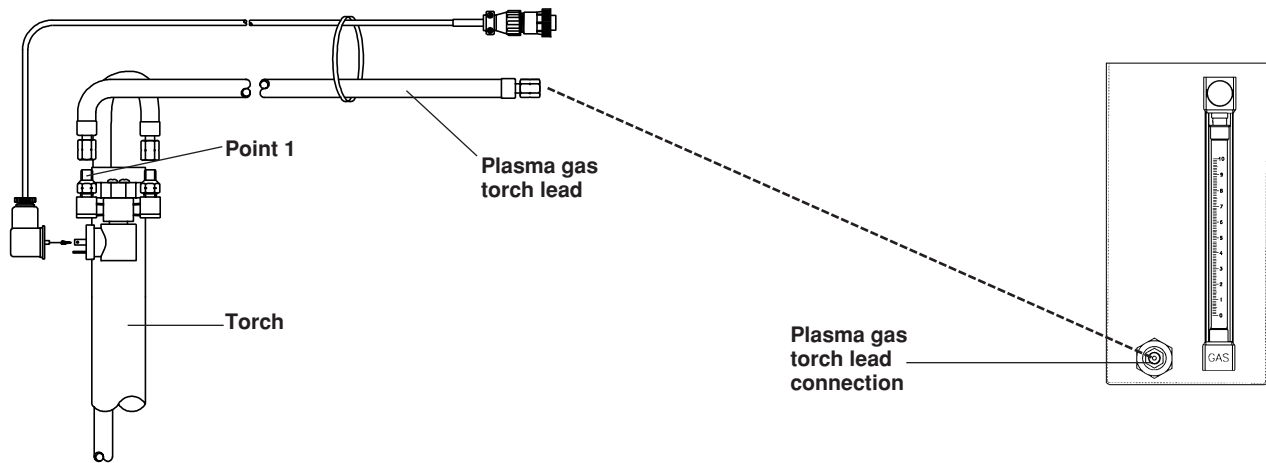

Figure 7-5 Argon-Hydrogen Manifold to Torch Connection Points
## Plasma gas torch lead – Argon-Hydrogen Manifold to Torch (Fig. 7-5)
- C. Attach one end of the argon-hydrogen plasma gas torch lead (Fig. 7-4) to the **Plasma gas torch lead connection** located on the front of the manifold. (Fig. 7-5)
- D. Attach the other end of the plasma gas torch lead to **Point 1** on the torch. (Fig. 7-5)
Connect the nitrogen supply to the shield connection at the rear of the gas console. (Fig. 7-5)
3. Remove the argon-hydrogen plasma gas hose from point 1 of the torch. See Figure 7-5.